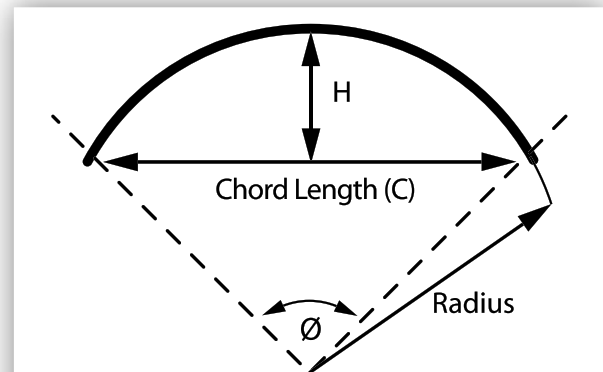

Figure 8: Curvature Measurements
2. Measure the corresponding chord length (C) - refer to Figure 8.
3. Measure the corresponding centre offset (H) - refer to Figure 8.